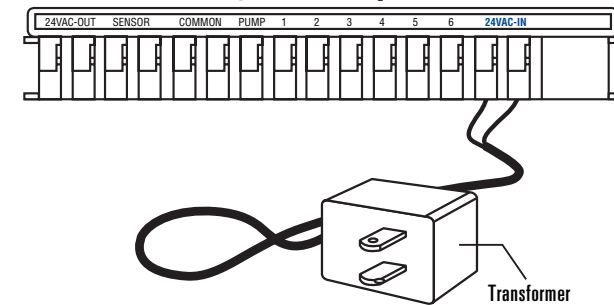

Figure 25: Connecting the Transformer
- With the cover off, find the two terminal holes labeled “24VAC IN” [See Figure 25]